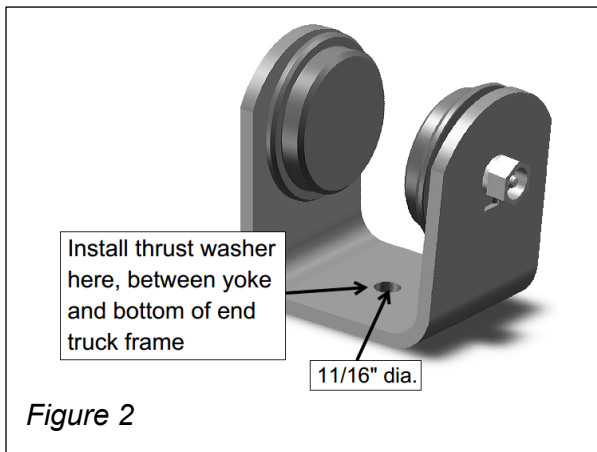
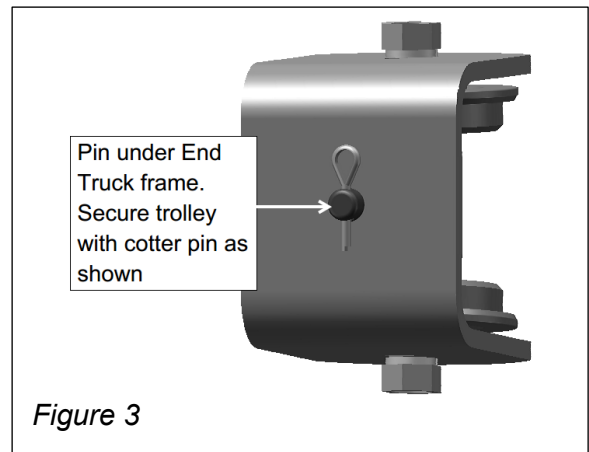

Figure 2
Figure 3
See Figures 2 and 3 for trolley details.
5. Roll trolleys onto each end of end truck, verify thrust washer is in place (see Figure 2), position end truck pin into hole in trolley yoke, secure with cotter pin as shown in Figure 3